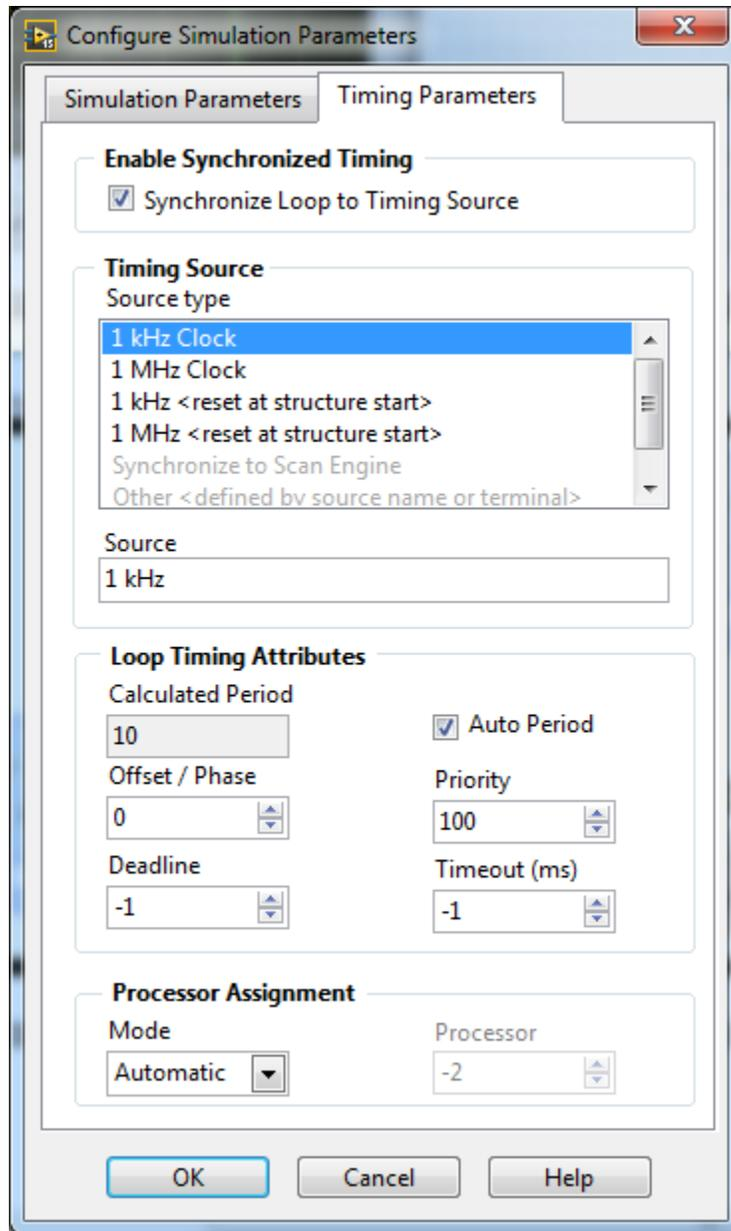

Figure 6 - Configure Simulation Parameters dialog box - Timing Parameters tab
- Right click on the box in the attached to the upper left corner of the **Control & Simulation Loop** and select properties. Make sure it matches the values in Figure 6 and Figure 7. In the Simulation Parameters tab, change the solver to **Runge-Kutta 1** and the Step Size to **0.01**. In the Timing Parameters tab check the **Synchronize Loop to Timing Source** box.